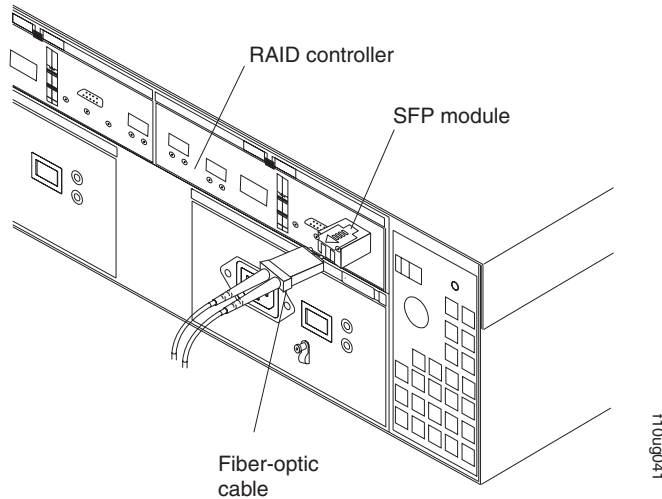

Figure 22. Installing an SFP module into the host port
4. Insert the SFP module into the host port until it clicks into place. See Figure 22 on page 34.